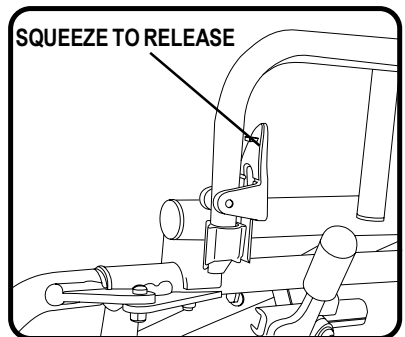

Figure 6. Flip-up Armrest Latch
4. If necessary, flip up an armrest. See figure 6.